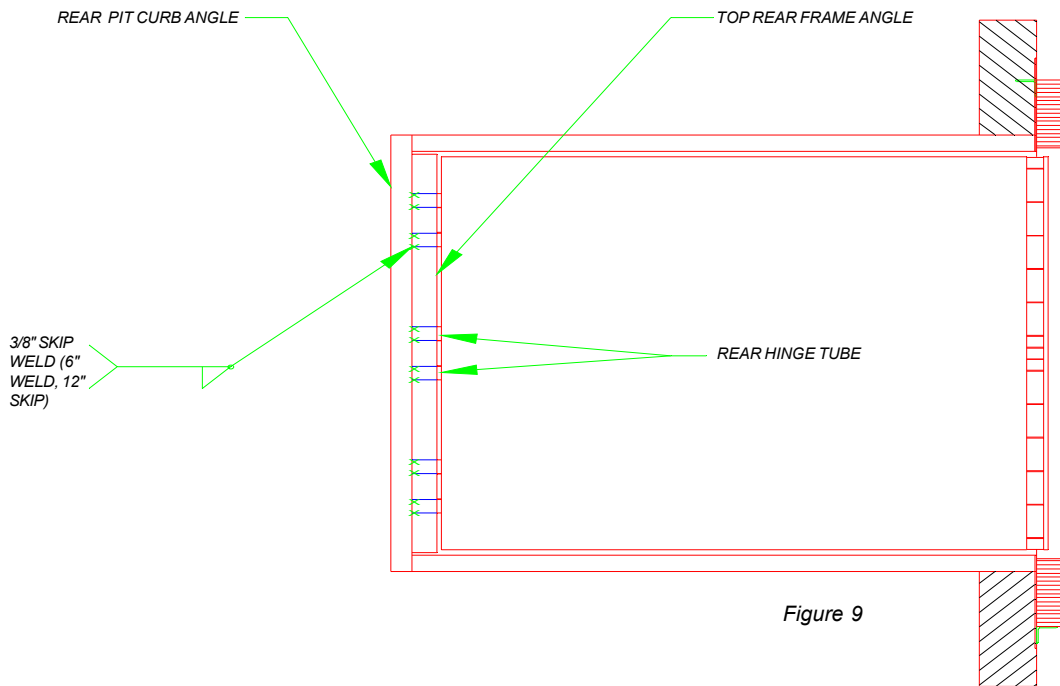

Figure 9
7. With the rear frame upper angle tightly against the curb steel, weld the rear frame upper angle to the rear curb angle in the pattern for the width of the dockleveler being installed. Note: Weld pattern will vary based on dockleveler width. Figure 9 illustrates a typical weld pattern.